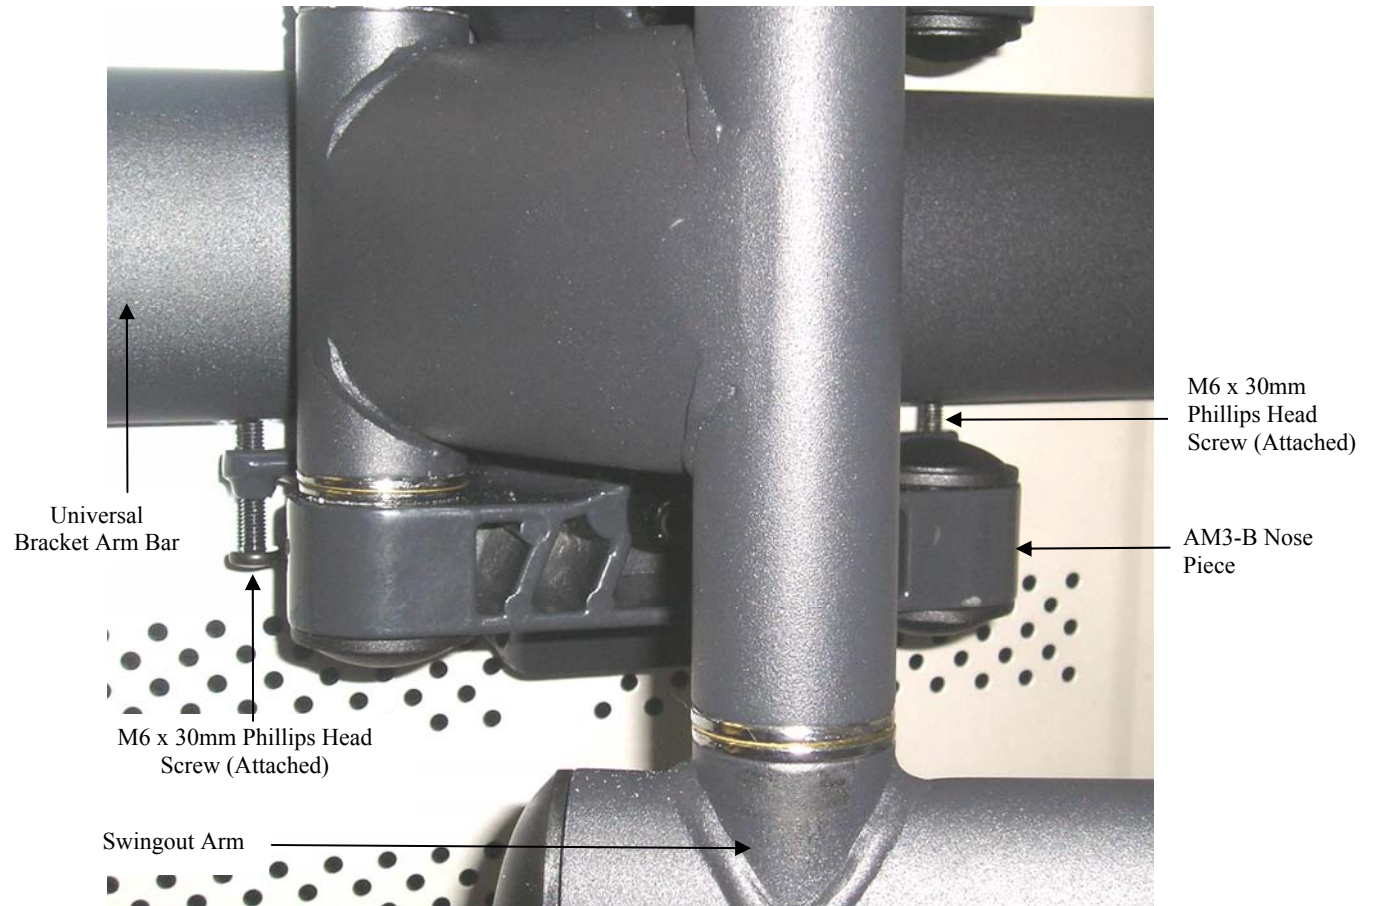

Figure 14
Once the two units have been secured together, the two (2) M6 x 30mm Phillips Head locking screws must be installed in the noted location (Figure 14) to prevent any movement.